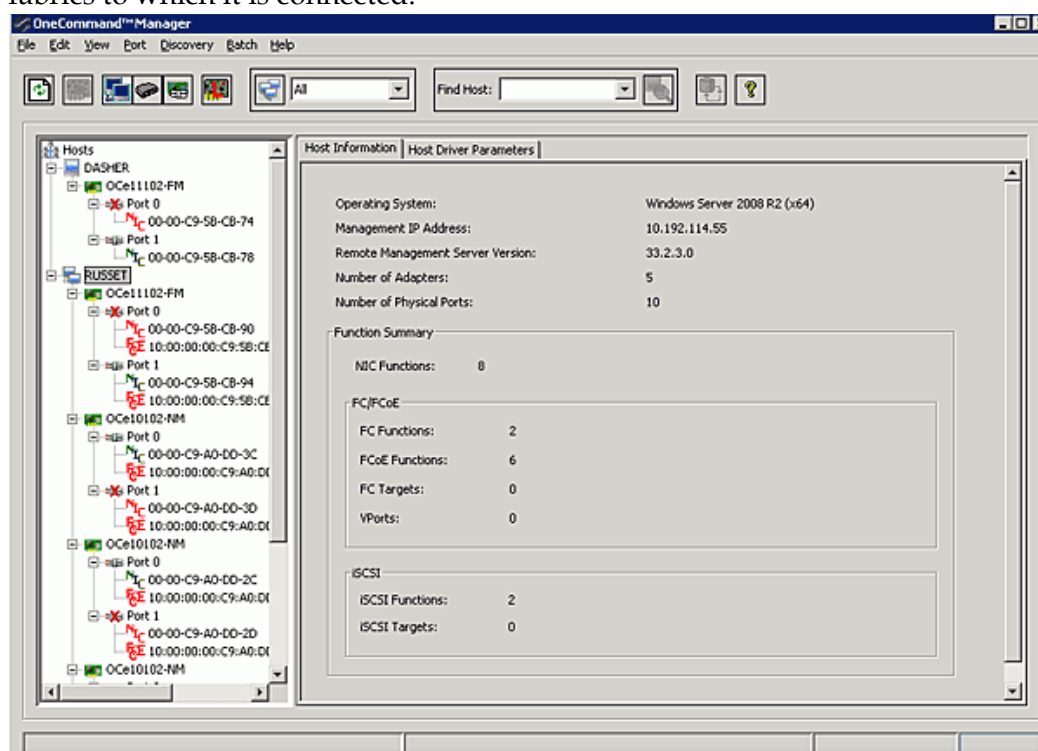

Figure 6-1 Host Information Tab
Two tabs show host information: the Host Information tab (Figure 6-1 on page 57) and the Host Driver Parameters tab (Figure 8-30 on page 156). The Host Information tab is read-only. The Host Driver Parameters tab enables you to view and define adapter driver settings for a specific host. See “The Host Driver Parameters Tab” on page 156 for more information about the Host Driver Parameters tab.
3. Select the **Host Information** tab (Figure 6-1 on page 57) or the **Host Driver Parameters** tab (Figure 8-30 on page 156).
The Host Information tab (Figure 6-1 on page 57) displays information for the selected host such as the number of adapters installed in the selected host and the number of fabrics to which it is connected.